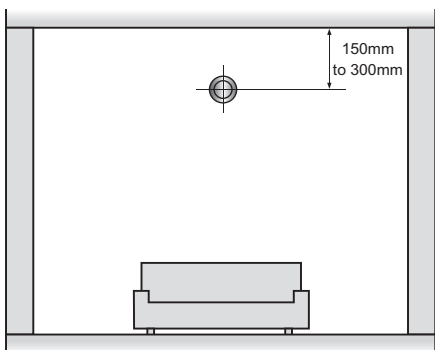

Fig.2
- a) the top of the detection element is between 150mm and 300mm below the ceiling (see Figure 2);